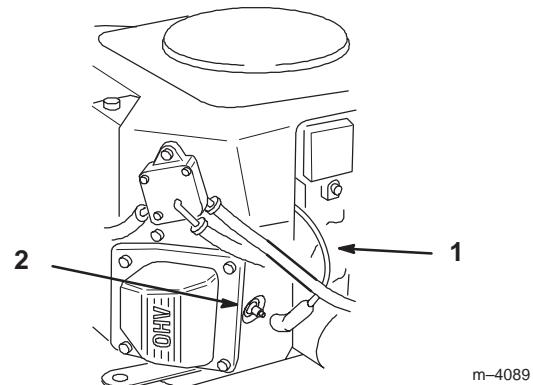

Figure 28
2. Pull the wire(s) off the spark plug(s) (Fig. 28). Now clean around the spark plug(s) to prevent dirt from falling into the engine and potentially causing damage.
- Push the wire(s) onto the spark plug(s) (Fig. 28).